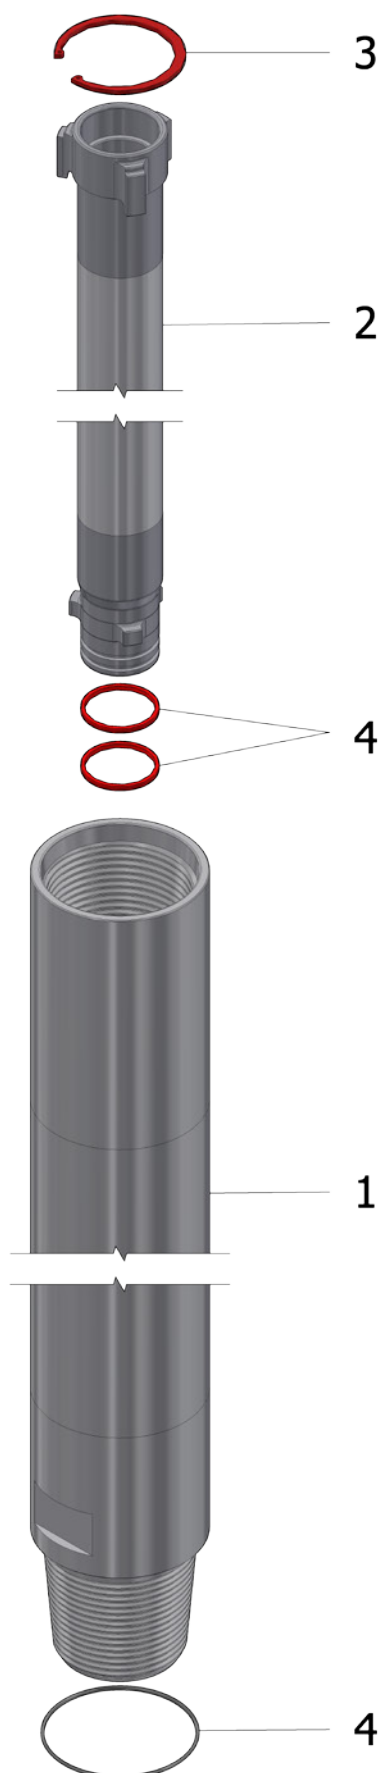

FIG. 3.20
D.140 C2 ROD: J-14C21000 (L=1000); J-14C22000 (L=2000); J-14C23000 (L=3000) (REF. FIG. 3.20)